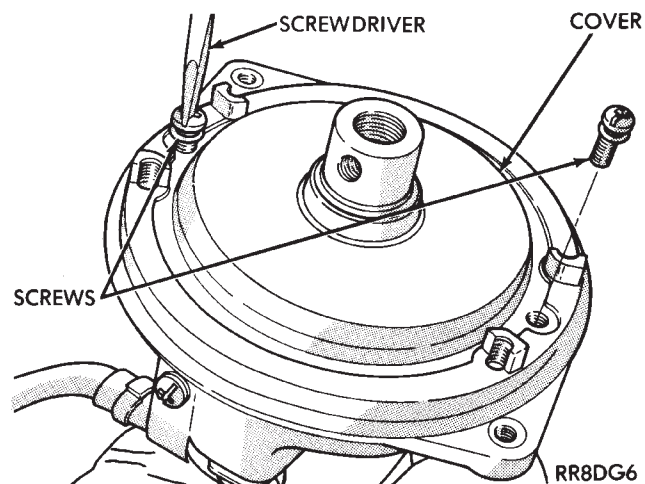

Fig. 25 Protective Cover
- (4) Remove protective cover from distributor housing (Fig. 25).